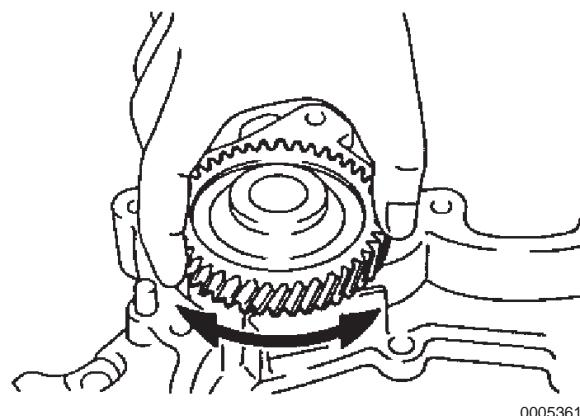

Figure 8-9
4. Check the drive shaft by turning the gear (Figure 8-9) and check if the drive shaft turns smoothly and the bearing has no play. If needed, replace the oil pump assembly.